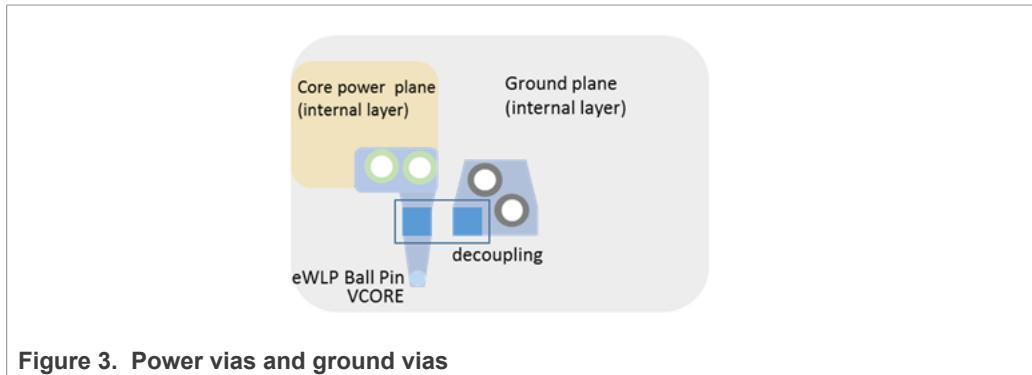

Figure 3. Power vias and ground vias
- Place the power vias and ground vias as close as possible to the decoupling capacitors, as shown in Figure 3.